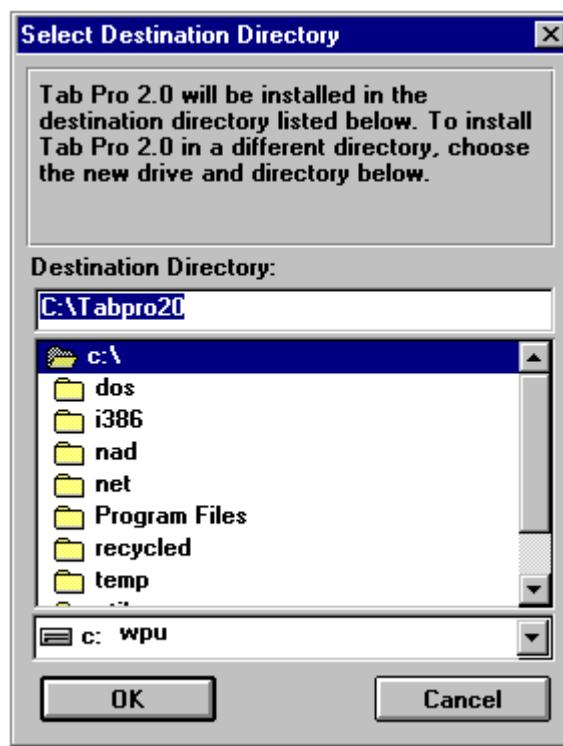

FIGURE 35. TabPro Destination Directory Dialog
- 8.68 On the 'Select Destination Directory' press the 'OK' button to continue. See Figure 35.